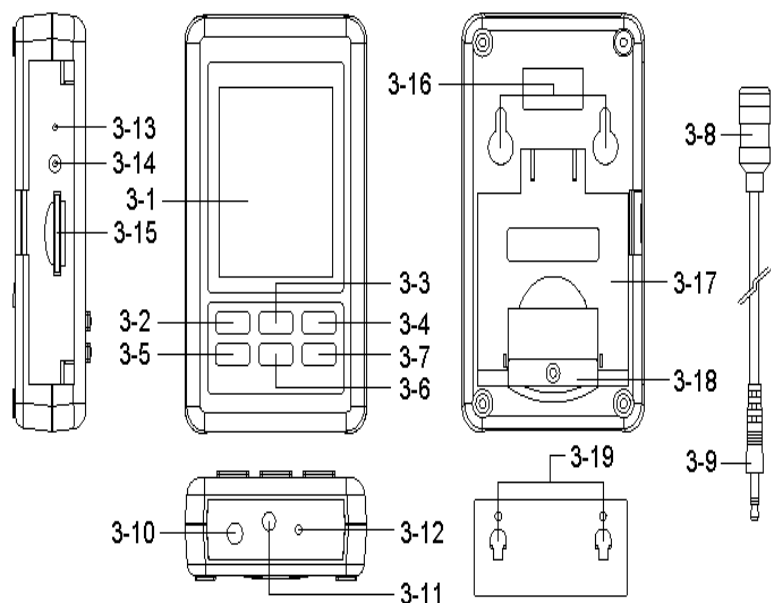

Fig. 1
- 1) Power ON the meter by pressing and holding the " Power Button " (3-2, Fig. 1)for at least 1.5 seconds, the meter's default function is " A"(frequency weighting) , " Fast"(time weighting) " Auto range ". The LCD display will show the Symbol " A, FAST , xx.x dB , 0 ".
- 3) According to various measuring sound source, select the Time Weighting (Fast or Slow) by pressing " ENTER Button " (3-7 , Fig. 1).
- 1) In " SPL" mode to select the " **Dose** " mode by pressing and holding the" RUN button" (3-4 Fig 1) into the DOSE mode .
- 4) According to various measuring sound source, select the Time Weighting (Fast or Slow) by pressing the "ENTER Button " (3-7, Fig. 1).
During the SPL measurement, press the " ▲ Button " (3-3, Fig. 1) once will hold the measured value & the LCD will display a " HOLD " symbol.
- 1) The data record function records the maximum and minimum readings. Press the " RUN Button " (3-4, Fig.1) once to start the Data Record function and display is shown the " REC " symbol .
- a) Press the " RUN Button " (3-4, Fig. 1) once, the " REC MAX " symbol along with the maximum value will appear on the display. Press the " RUN Button" again the " REC MIN " symbol along with the minimum value will appear on the display. Press the " RUN Button" again will show the " REC " symbol only & execute the memory function continuously.
After power ON, the " LCD Backlight " will light automatically. During the measurement, press the " POWER Button " (3-2, Fig. 1) once will turn off the " LCD Backlight ".
Pressing and holding the " ENTER Button "(3-7, Fig. 1) > 2 sec. , display is shown " LOGGER " , at the same time the measuring data along with the time information will be saved into the memory circuit(EEPROM). and the top right will record items.
During execute the Datalogger function , if press the " ENTER Button " (3-7, Fig. 1) once will pause the Datalogger function (stop to save the measuring data into the memory circuit temporality).
If press the " ENTER Button " (3-7, Fig. 1) once again will execute the Datalogger again.
Press the " ENTER Button "(3-7, Fig. 1) continuously at least two seconds, the " LOGGER " indicator will be disappeared and finish the Datalogger.
Prepare a " SD memory card " (1 GB to 16 GB, optional), insert the SD card into the " SD card socket " (3-15, Fig. 1). The front panel of the SD card should face against the left side.